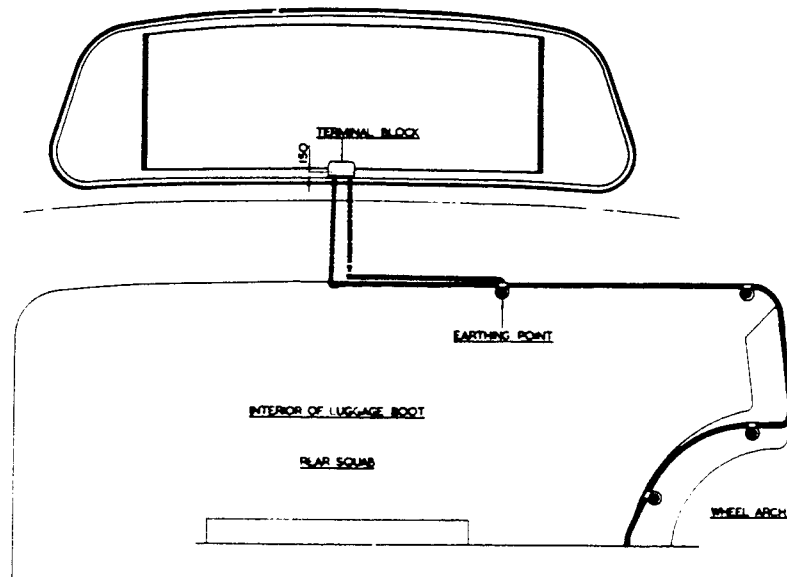

FIG. 2
- (vi) Anchor the cable to the squab screws following the line of the boot as shown in Fig. 2 and enclosing the cable in P.V.C. tube.
- (vii) Drill two $.218$ " dia. (5.5 mm) holes one on each side of the centre line, 1" between centres, through the rearmost sloping portion of the parcel shelf. Stick the terminal block to the rear window with Durafix symmetrically across the centre line and approximately $.150$ " (3.01 mm) above the top edge of the wooden finisher. When secure attach the demister terminals and the feed wire. Connect a short earthing cable from the terminal block to the centre screw on the top of the rear squab (Fig. 2).